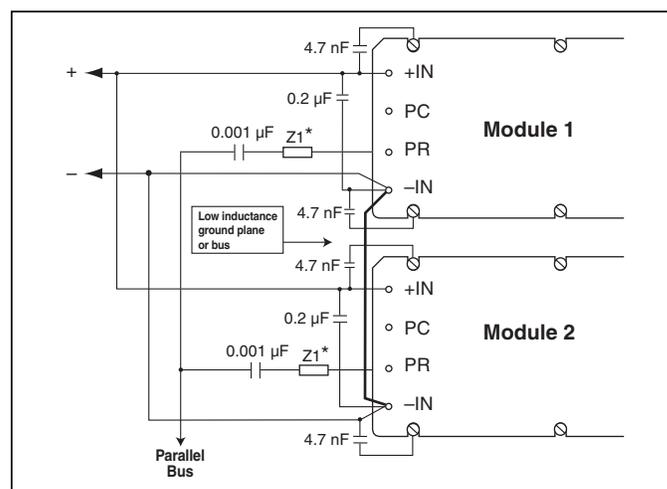

Figure 9 — AC coupled single-wire interface.
**AC coupled single-wire interface.** All PR pins are connected to a single communication bus through 0.001  $\mu$ F (500 V) capacitors. This interface supports current sharing and is fault tolerant except for the communication bus. Up to three converters may be paralleled by this method. See Figure 9.